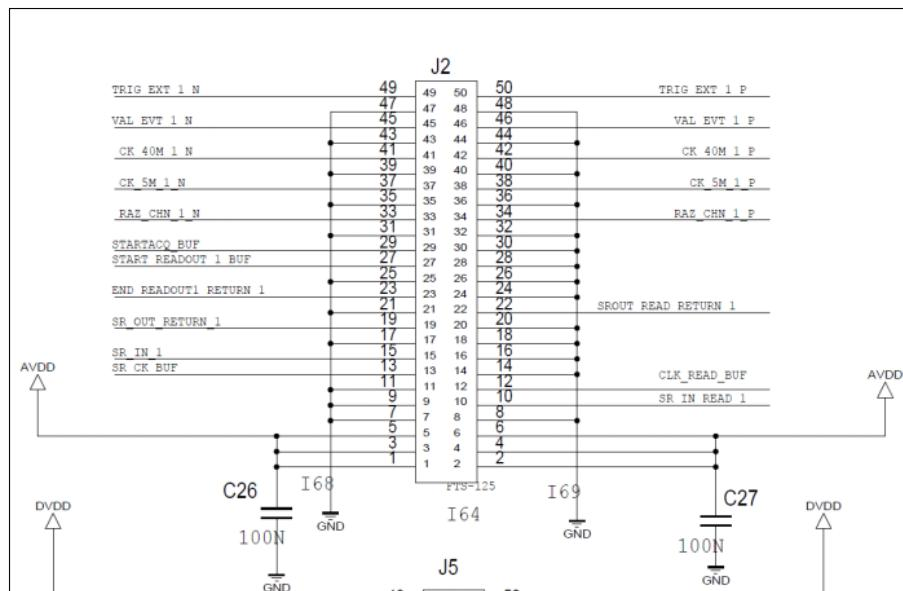

Figure 1.12: J2 connector pin-out
2. Then take a 50 pins flat cable (that you are then going to connect to the J2 connector). Cut in the middle the wires number 13, 49 and 50 (SR_CK_BUF, TRIG_EXT_N and TRIG_EXT_P respectively). Refer to Figure 1.12 for the flat cable pin-out. Strip the “ASU end” of these wires. By ASU end I mean the end that is not to be connected to the interface but to the ASU. If needed do the same for the other flat cables coming out the connectors J6, J8 and J10.